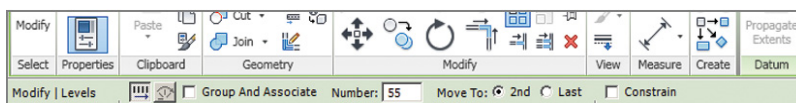

FIGURE 7.10 Array options
2. Because Level 10 is at an elevation of 150'-0" (45 m), you need to create an array with the options shown in Figure 7.10. These options can be adjusted in the Options Bar below the ribbon.